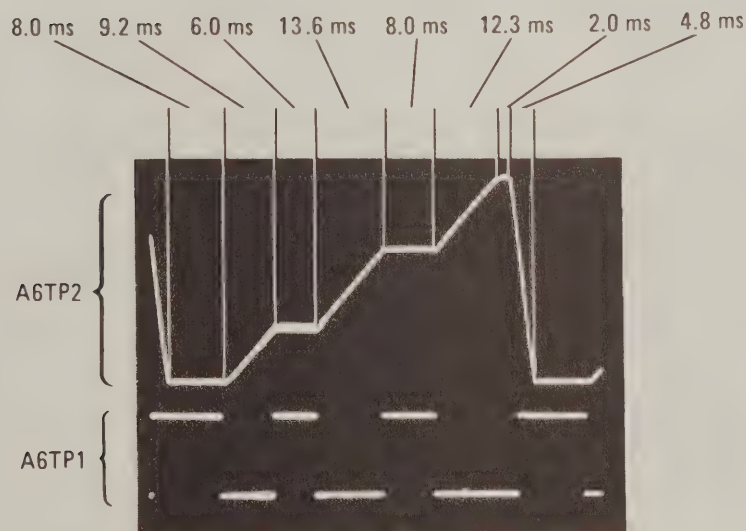

Figure 5-6. Stop Sweep Timing Waveform
- f. Press 8620C FULL SWEEP pushbutton. Connect oscilloscope Channel A to A6TP2 and Channel B to A6TP4. Display should appear as shown in Figure 5-6. Time durations shown are typical; actual times measured may vary slightly.